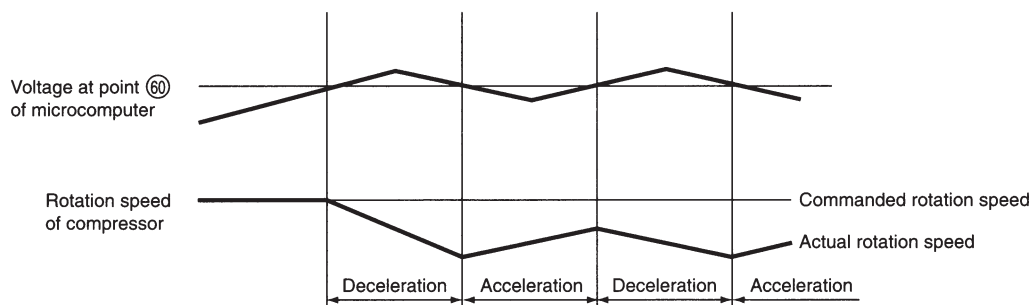

Fig. 8-4
(1) Overload external judgement circuit
- Voltage generated from current flowing in shunt R is balanced by R245 and C220 and input to pin ⑤ of IC4. Then voltage-amplified value is input to pin ⑥ of microcomputer to compare with internal data of EEPROM. When values correspond, microcomputer enters overload control.
- Fig. 8-4 shows the rotation speed control. When value at pin ⑥ of microcomputer exceeds set value, rotation speed of compressor decelerates to reduce load regardless of rotation speed commanded from indoor unit.